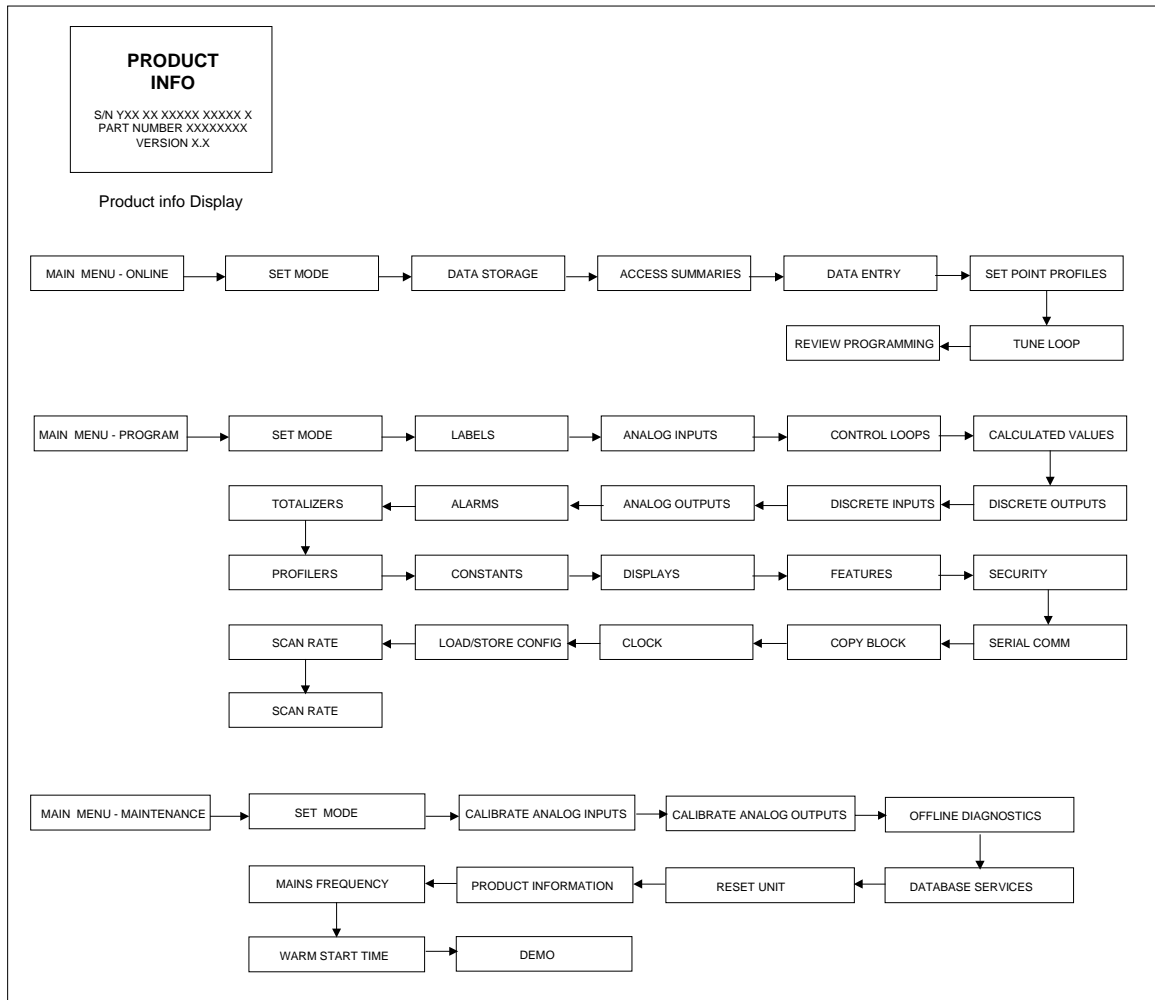
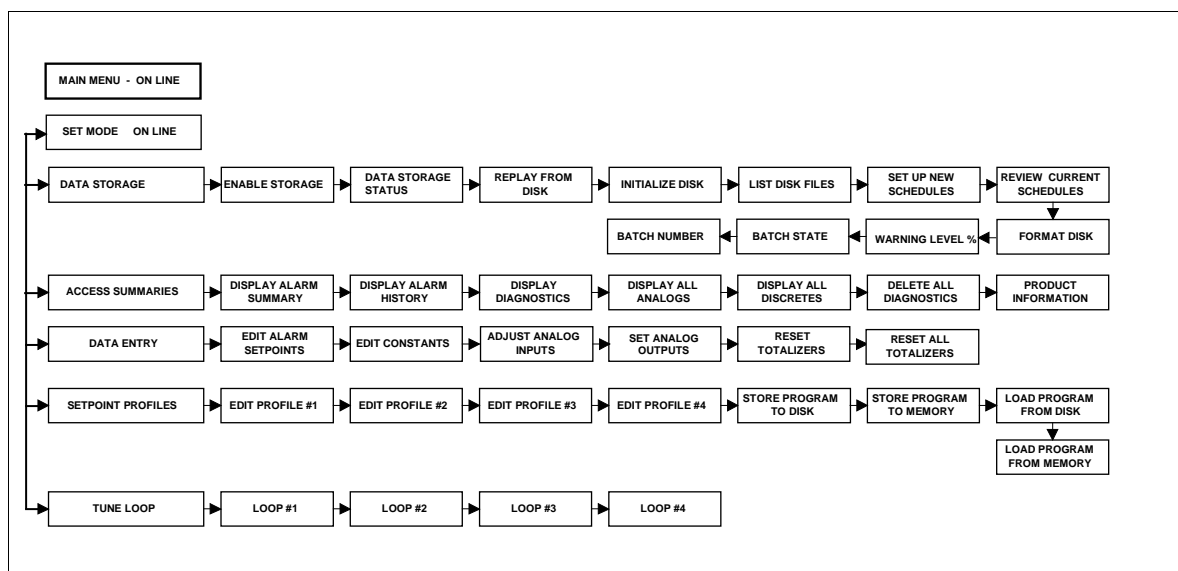
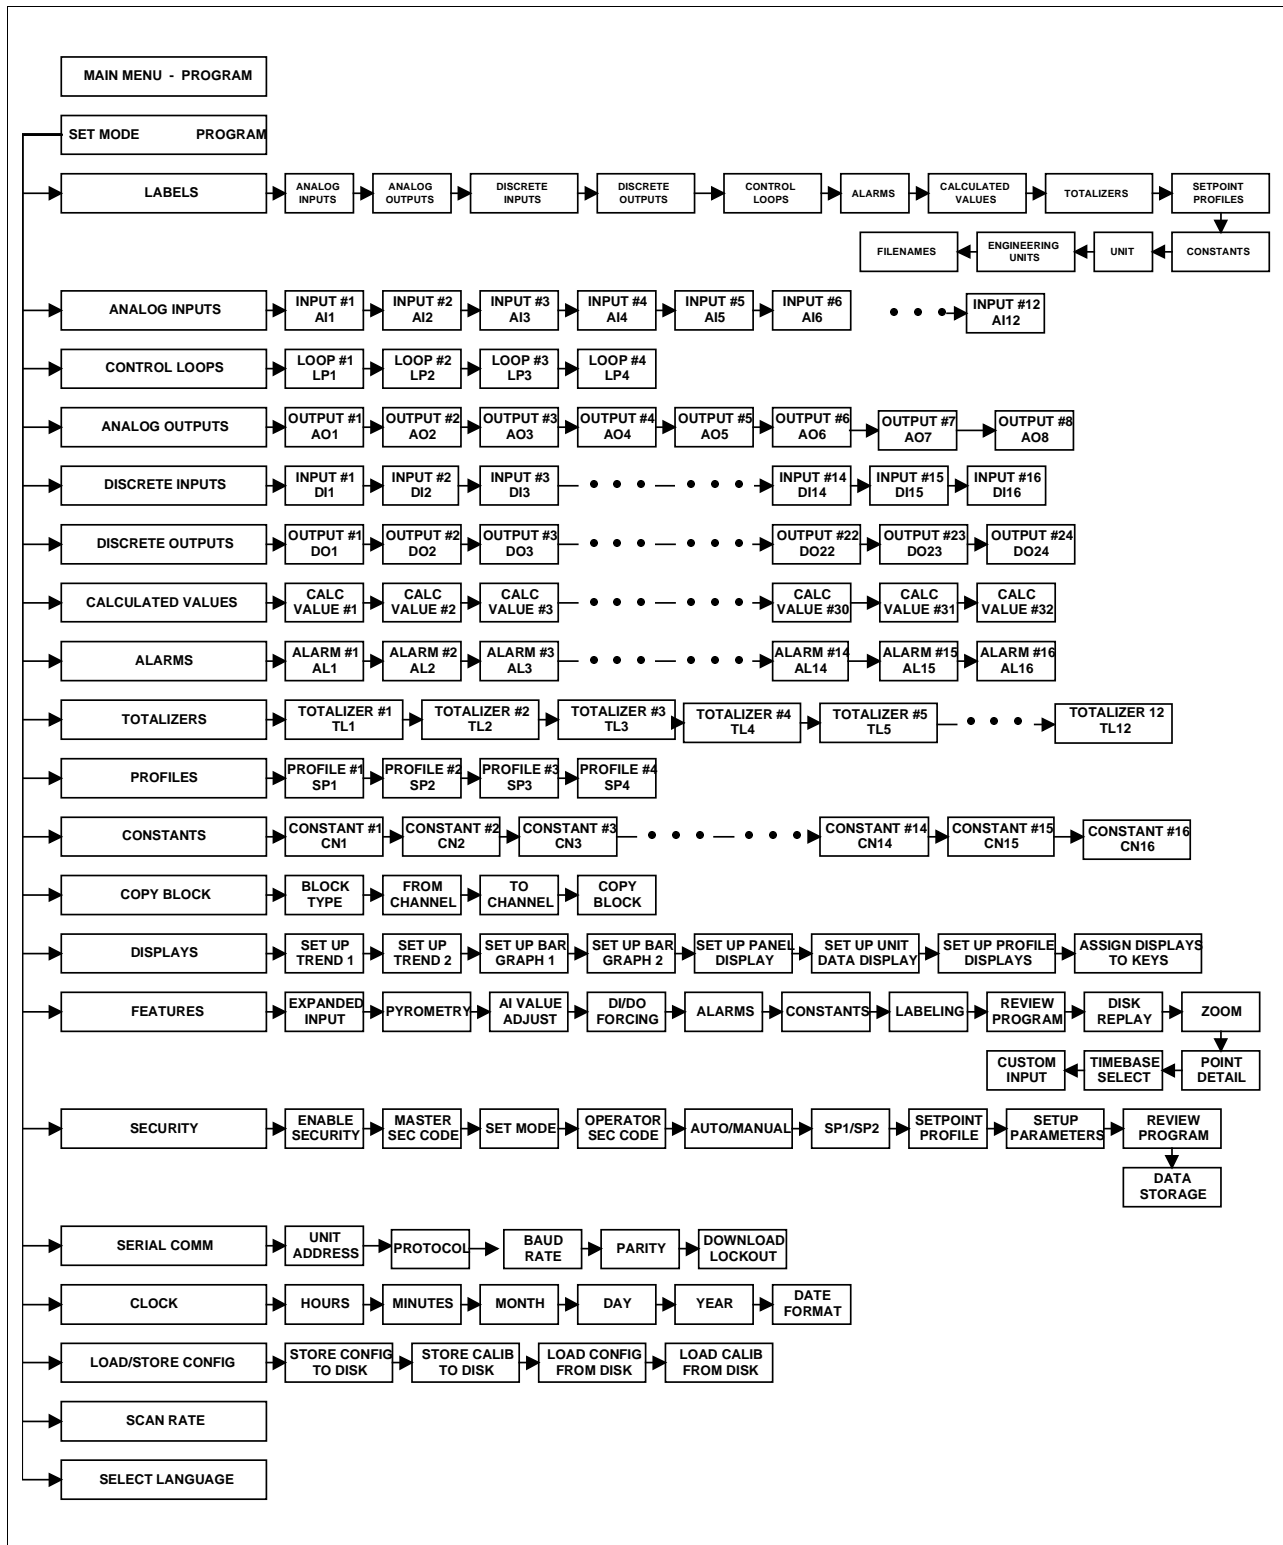
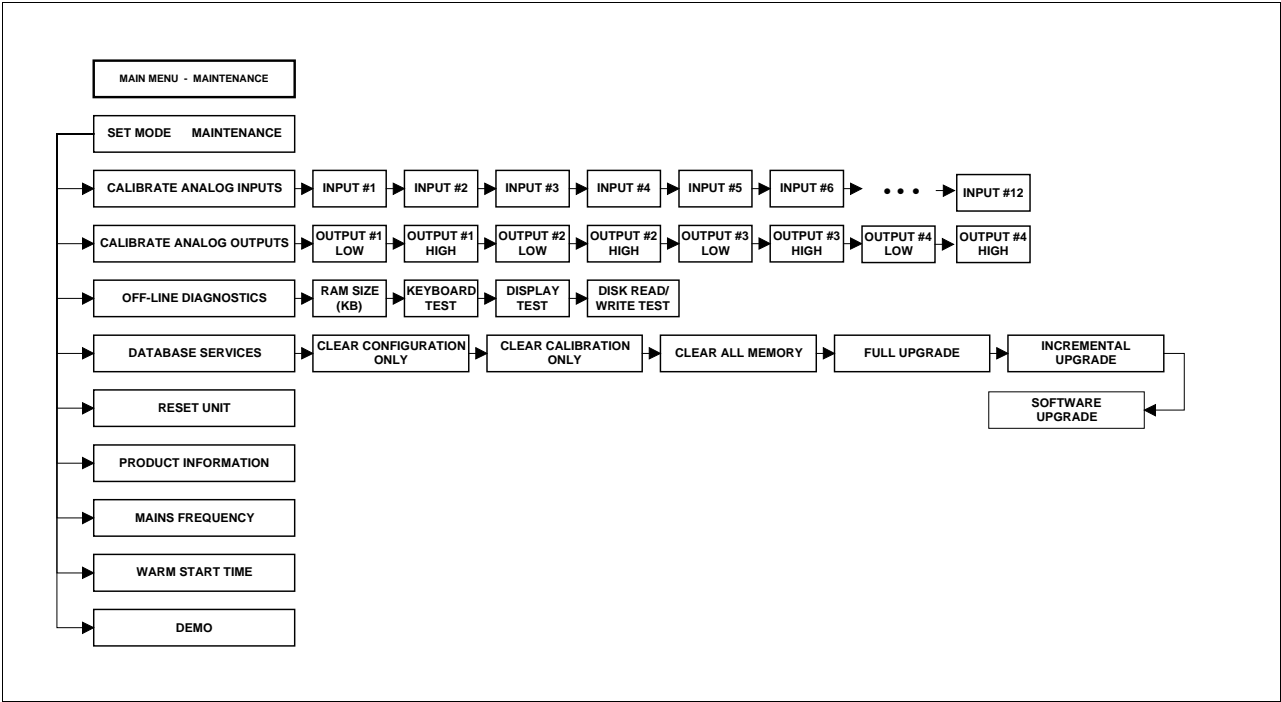

Figure 3-5 Menu Navigation Guide Through ON LINE, PROGRAM, and MAINTENANCE mode MAIN MENUS
Figure 3-6 ON LINE mode MAIN MENU
Figure 3-7 PROGRAM mode MAIN MENU
Figure 3-8 MAINTENANCE mode MAIN MENU
1. When powering up the instrument for the very first time, the logo display will initially appear. Press the Menu button several times until the ON LINE, PROGRAM, or MAINTENANCE mode MAIN MENU is displayed. Refer to Figure 3-5. Note: Menus are shown with all possible options; your menu may not have all options.
2. Once you have established which MAIN MENU you are on, use the Up Arrow and Down Arrow buttons to verify each MAIN MENU choice as indicated in Figure 3-5.
6. Once within the mode selected in Step 5, scroll through the mode's MAIN MENU using the Up Arrow and Down Arrow buttons. Verify each menu choice as indicated in Figure 3-5.
Now use the Menu, Up Arrow, Down Arrow, and Enter buttons to verify the ON LINE, PROGRAM, and MAINTENANCE mode sub-level menus detailed in Figure 3-6, Figure 3-7, and Figure 3-8. The sub-level menus shown represent only the first sub-level below each mode's MAIN MENU. There are several sub-level menus, not indicated here, that run further below each first sub-level. Note that once inside of a sub-level menu, regardless of how "deep" the level is, a press of the Menu button will return you to the next highest menu level. In case you get lost within a mode's sub-level menu, keep pressing the Menu button until the ON LINE, PROGRAM, or MAINTENANCE mode MAIN MENU appears on screen.
Be advised that Figure 3-5 through Figure 3-8 comprise a basic "road map" for navigating the menus within the programmer's three modes. Sections 4 through 8 of this manual will provide detailed descriptions of each menu choice and complete guides through all the sub-level menus that run below the levels indicated in these figures.